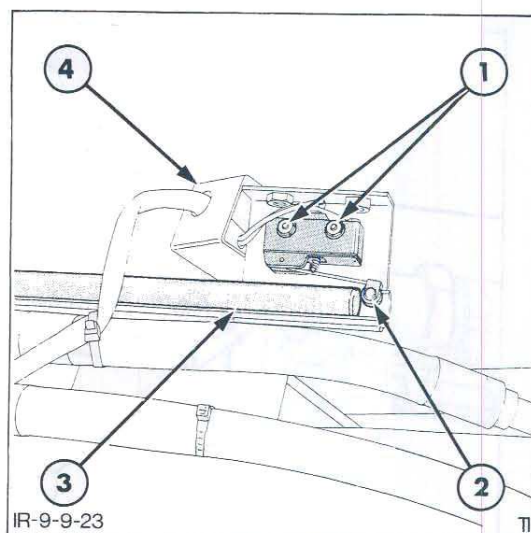

Figure 22
3. Remove the "return to dig" switch cover, Figure 22.